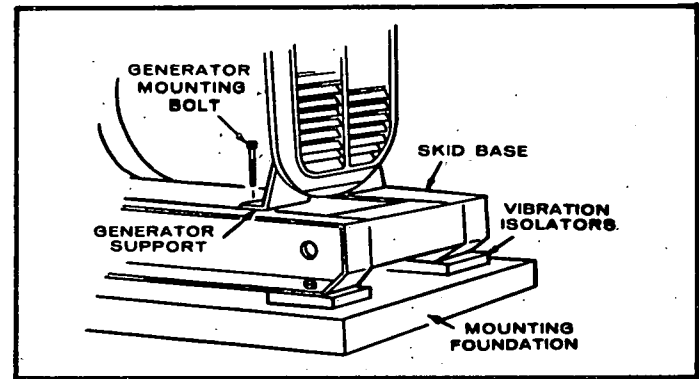

FIGURE 2.
1. Set the plant on its mounting foundation using vibration isolators between skid base and foundation (Figure 2). Secure the skid base to the mounting foundation. Remove the two mounting bolts and shims which secure the generator support to the